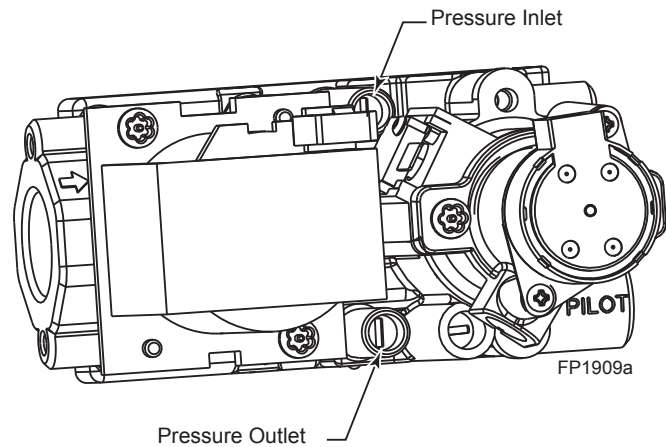

Figure 52 -
3. To check gas pressures at valve, turn captured screw counter clockwise 2 or 3 turns and then place tubing to pressure gauge over test point. Turn unit to high. *Figure 52.* After taking pressure reading, be sure and turn captured screw clockwise firmly to reseal. Do not over torque. Check test points for gas leaks.